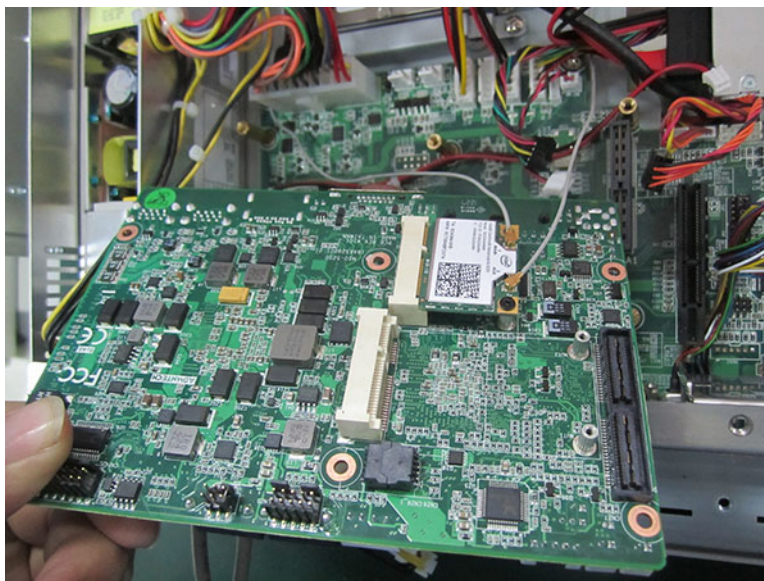

Figure 2.34
3. Connect the antenna to wireless LAN card, the wiring method of wireless LAN card is shown as Fig 2.34.